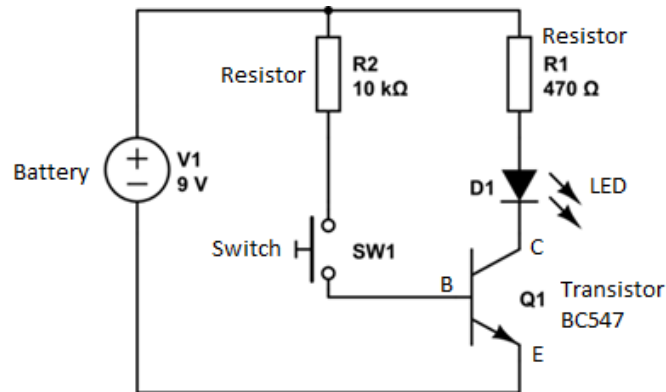

Figure 4: Glowing LED circuit (ON state)
2. Mount the circuit as shown in the Figure 4
3. Connect circuit of figure 4 across any other circuit without discontinuity
5. Connect circuit of figure 4 across any other circuit with discontinuity (some break in circuit)
2. Mount the circuit as shown in the Figure 4.